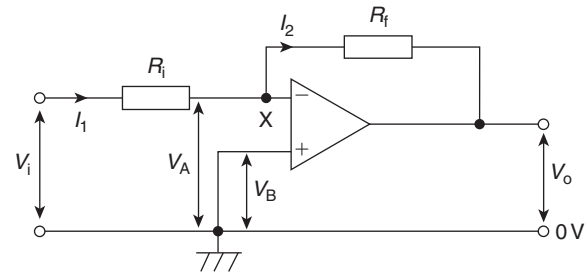
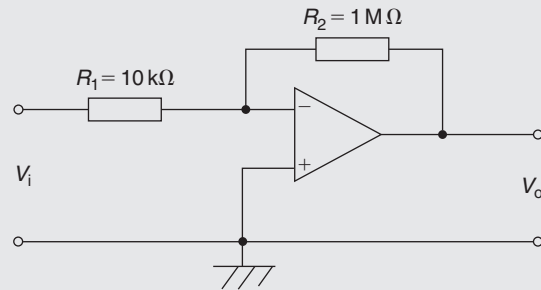

Figure 19.5
Figure 19.6
Operational amplifiers nearly always use **negative feedback**, obtained by feeding back some, or all, of the output to the inverting ($-$) input (as shown in Fig. 19.5 in the next section). The feedback produces an output voltage that opposes the one from which it is taken. This reduces the new output of the amplifier and the resulting closed-loop gain A is then less than the open-loop gain A_o . However, as a result, a wider range of voltages can be applied to the input for amplification. As long as $A_o \gg A$, negative feedback gives:
The basic circuit for an inverting amplifier is shown in Fig. 19.5 where the input voltage V_i (a.c. or d.c.) to be amplified is applied via resistor R_i to the inverting ($-$) terminal; the output voltage V_o is therefore in anti-phase with the input. The non-inverting ($+$) terminal is held at 0 V. Negative feedback is provided by the feedback resistor, R_f , feeding back a certain fraction of the output voltage to the inverting terminal.
- (ii) the inputs are both at the same potential if the op amp is not saturated, i.e. $V_A = V_B$ in Fig. 19.5
In Fig. 19.5, $V_B = 0$, hence $V_A = 0$ and point X is called a **virtual earth**. Thus,
Problem 4. In the inverting amplifier of Fig. 19.5, $R_i = 1\text{ k}\Omega$ and $R_f = 2\text{ k}\Omega$. Determine the output voltage when the input voltage is: (a) +0.4 V (b) –1.2 V.
Problem 5. The op amp shown in Fig. 19.6 has an input bias current of 100 nA at 20 °C. Calculate (a) the voltage gain, and (b) the output offset
Comparing Fig. 19.6 with Fig. 19.5, gives $R_i = 10\text{ k}\Omega$ and $R_f = 1\text{ M}\Omega$
(c) The effect of input bias current can be minimised by ensuring that both inputs ‘see’ the same driving resistance. This means that a **resistance of value of 9.9 kΩ** (from part (b)) **should be placed between the non-inverting (+) terminal and earth** in Fig. 19.6
With reference to Fig. 19.5, and from equation (5),
4. In the inverting amplifier of Fig. 19.5 (on page 298), $R_i = 1.5 \text{ k}\Omega$ and $R_f = 2.5 \text{ k}\Omega$.